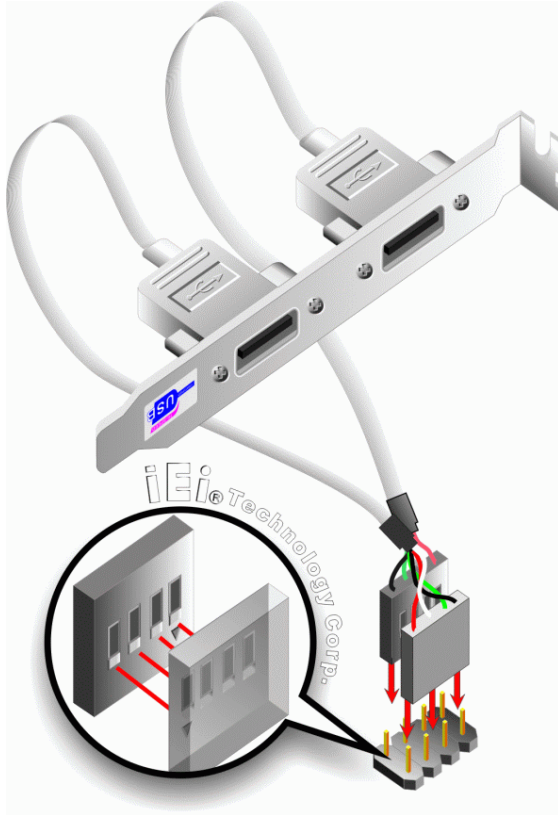

Figure 4-14: Dual USB Cable Connection
Step 7: **Insert the cable connectors** Once the cable connectors are properly aligned with the USB connectors on the IMB-G41A, connect the cable connectors to the on-board connectors. See **Figure 4-14**.